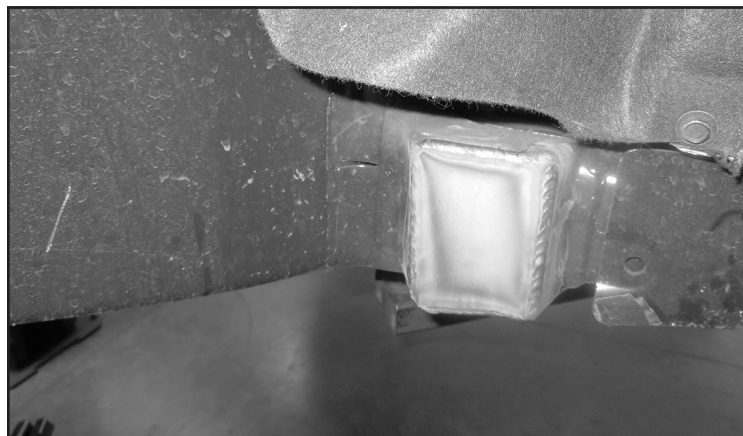

FIGURE 16 - STEP 19
19. Weld FT70319 (Weld plate) into the body mount. Allow to cool then paint the area. **SEE FIGURE 16**